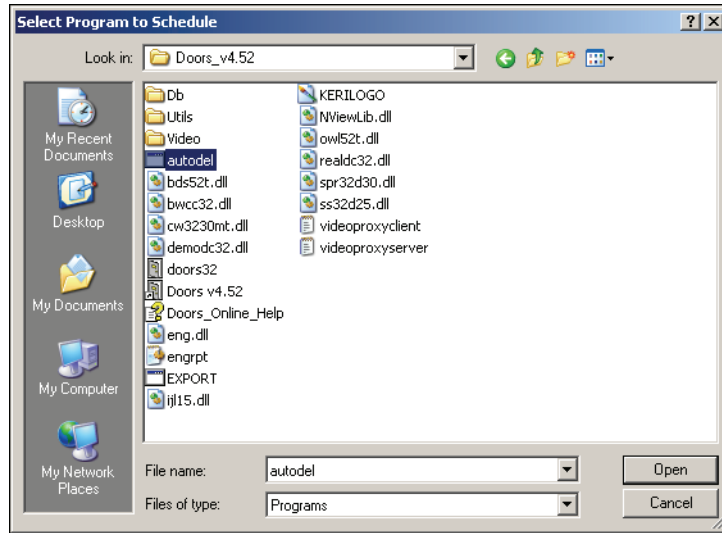

Figure 5-29: Select Autodel Program to Schedule
8. Select the current version of Doors installed on the PC, then click on the  button (or double-click on the current version of Doors). The next window will open (see Figure 5-29 on page 33 of this section).